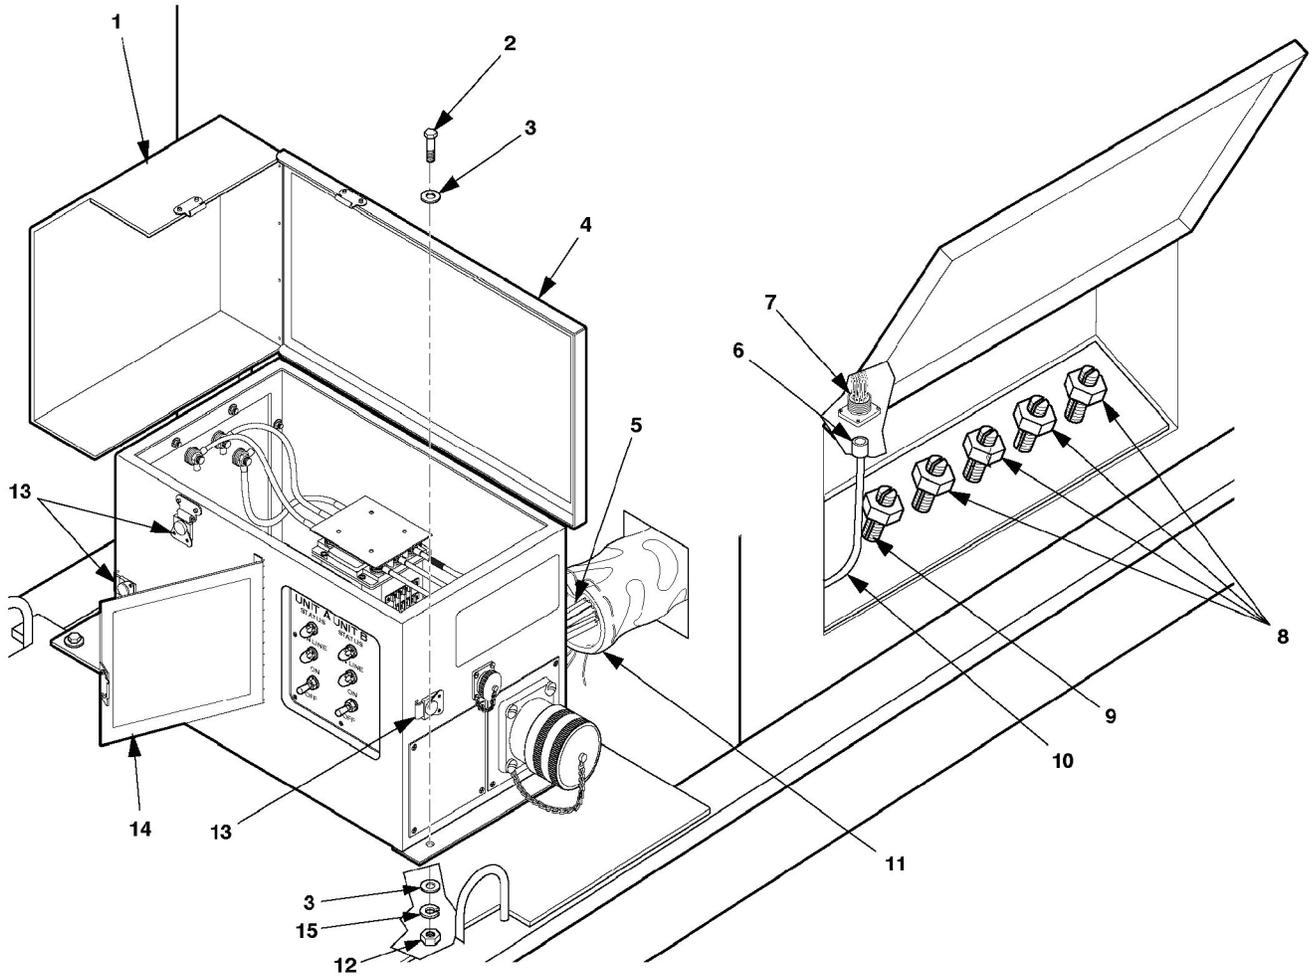

Figure 4-10.1. Switch Box Assembly Maintenance (Typical B&C Models)
1. Remove nuts (12, figure 4-10.1), lock washers (15), flat washers (3), and cap screws (2) that secure the switch box assembly. Discard lock washers (15).
2. Disconnect L1, L2, L3, and N from the generator set load terminals (8).